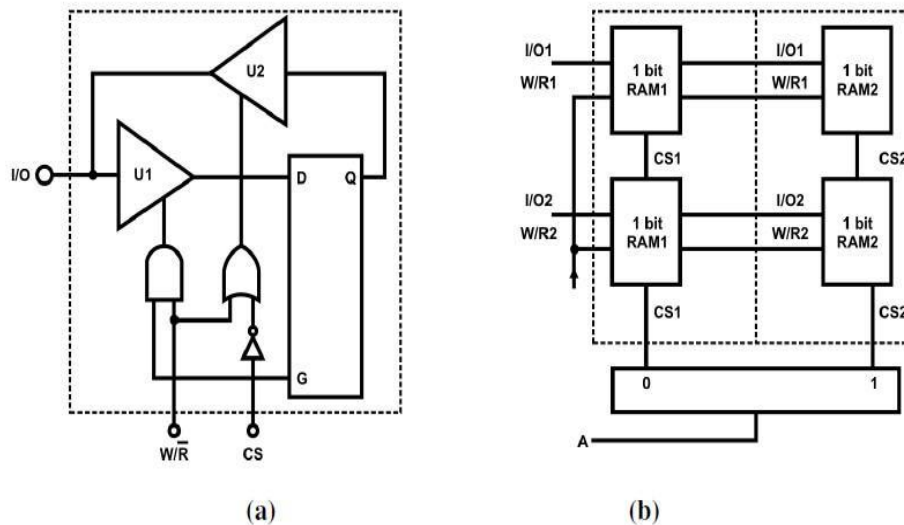

Figure 7.1: (a) One bit memory using a flip flop. (b) Two-bit memory with 1x2 decoder.
- 1) In the RAM circuit of Figure 7.1 (a), the input and output are not separated. There are two control terminals: one is the R/W terminal (R for READ or OUTPUT, W for WRITE or INPUT) and the other one is the ENABLE terminal.
- Figure 7.1 (b) shows another connection that will increase the RAM capacity. When CS1=1, RAM1 I/O1 and I/O2 are selected. Address line A is used to select between RAM1 and RAM2. Since there is only one address line, we can only select from 2 RAMs. In Figure 7.1 (b), each CS can only select a 2-bit RAM, so the total capacity is 2x2.